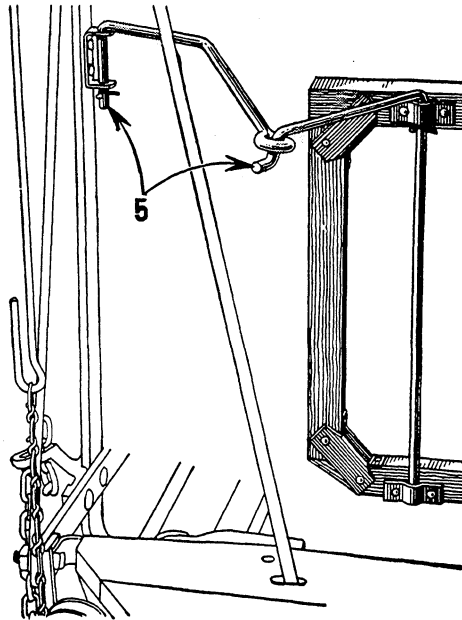

Figure 82
5. (Figure 82) Connect support rods at outer end of windshield. With cotter pin fasten outside rod to bracket on outside reel support post (10-foot only).